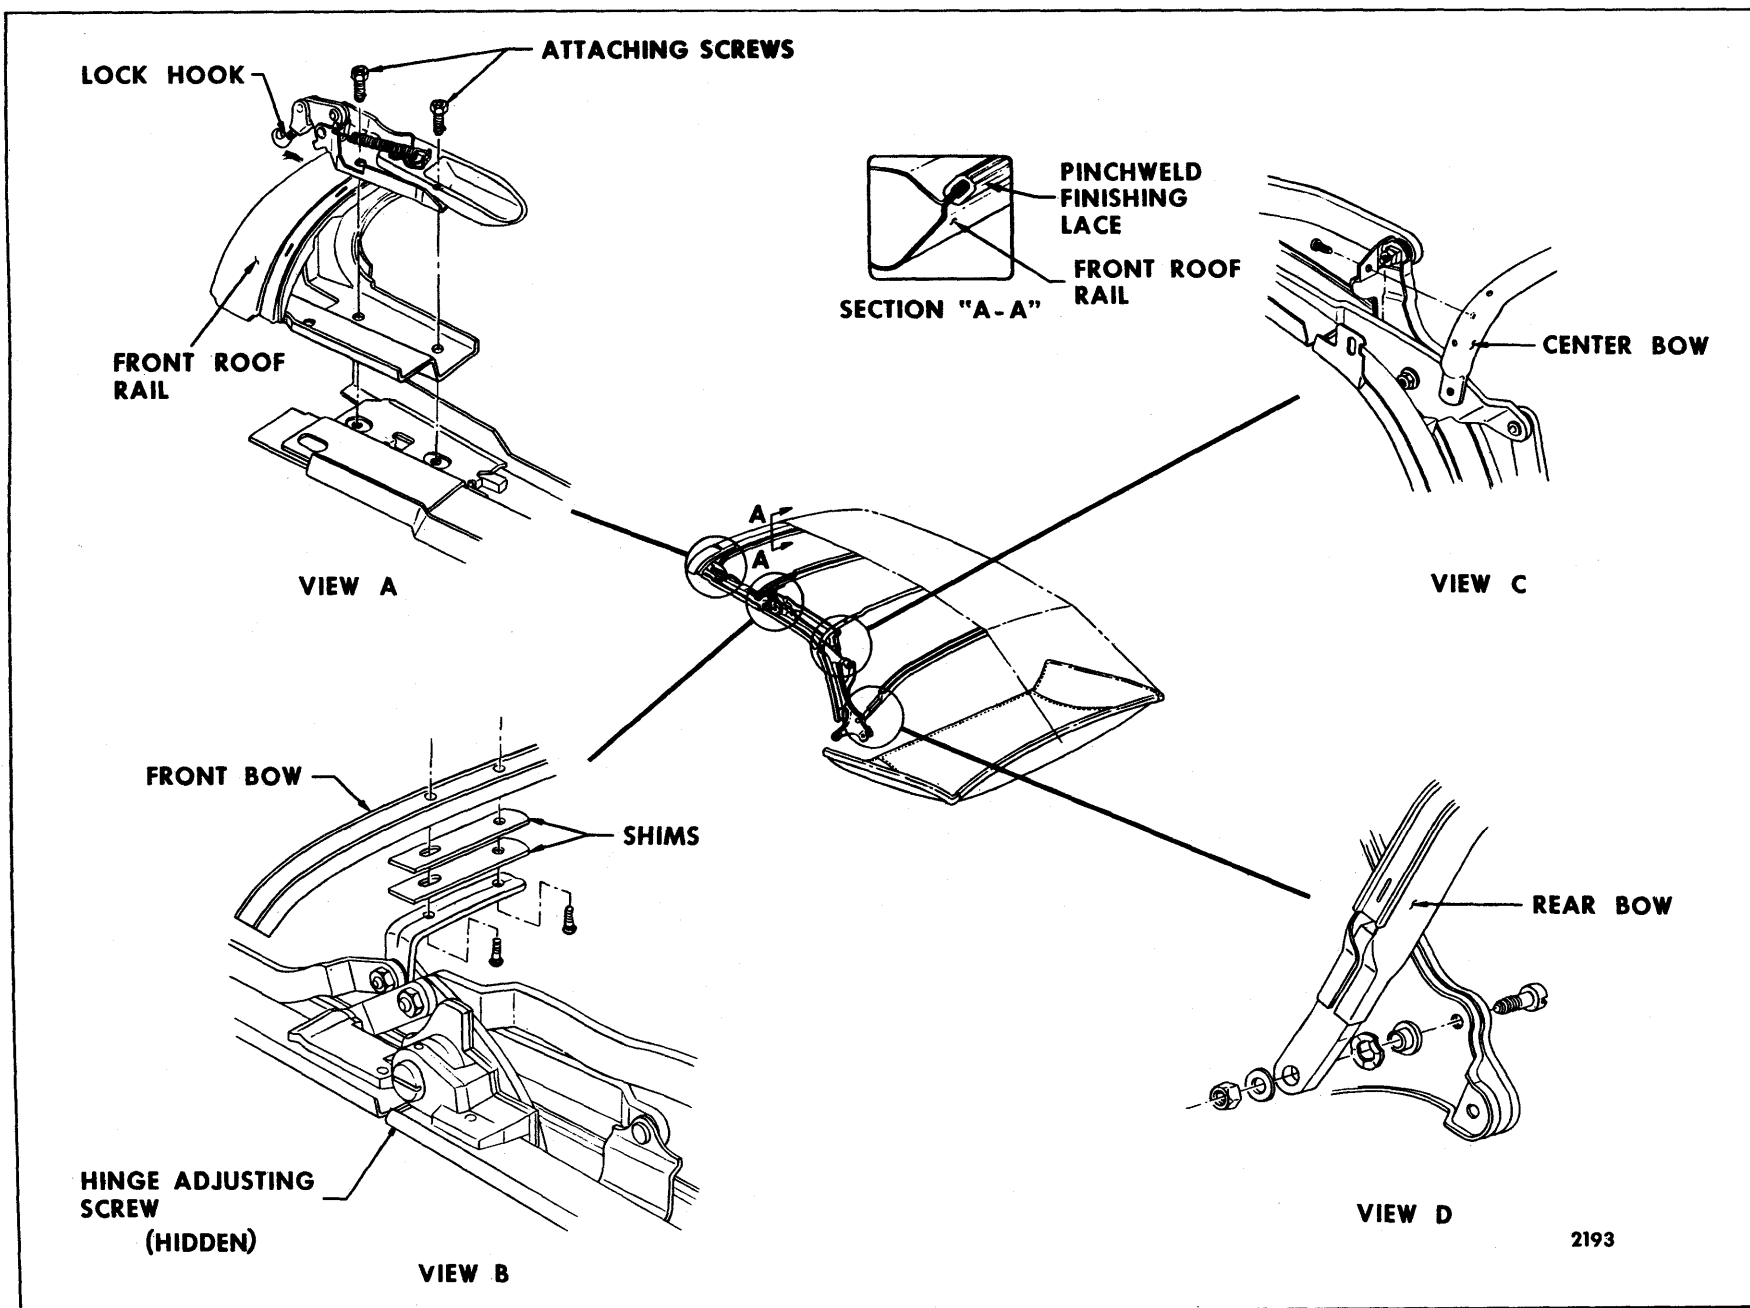

Fig. 6-80—"A" Body Folding Top Adjustments
2. Loosen lock assembly attaching screws on side roof front rail and adjust front roof rail fore or aft as required. Repeat on opposite side if necessary. (See View "A", Fig. 6-80.)
2. With top in a half-open position, remove lock attaching screws; then remove lock assembly from front roof rail. (See View "A", Fig. 6-80).
3. Front roof rail misaligned.	Adjust front roof rail. (View "A" in Fig. 6-80).
2. Center side roof rail hinge adjusting screw improperly adjusted.	Adjust screw clockwise. (See View "B" in Fig. 6-80).